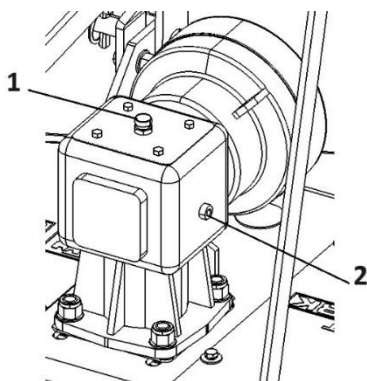

Fig. 7. Oil check and refill points in the bevel gear: 1 – filler plug, 2 – inspection plug
- unscrew the filler plug (1 in Fig. 7) and the inspection plug (2 in Fig. 7) on the bevel gear;